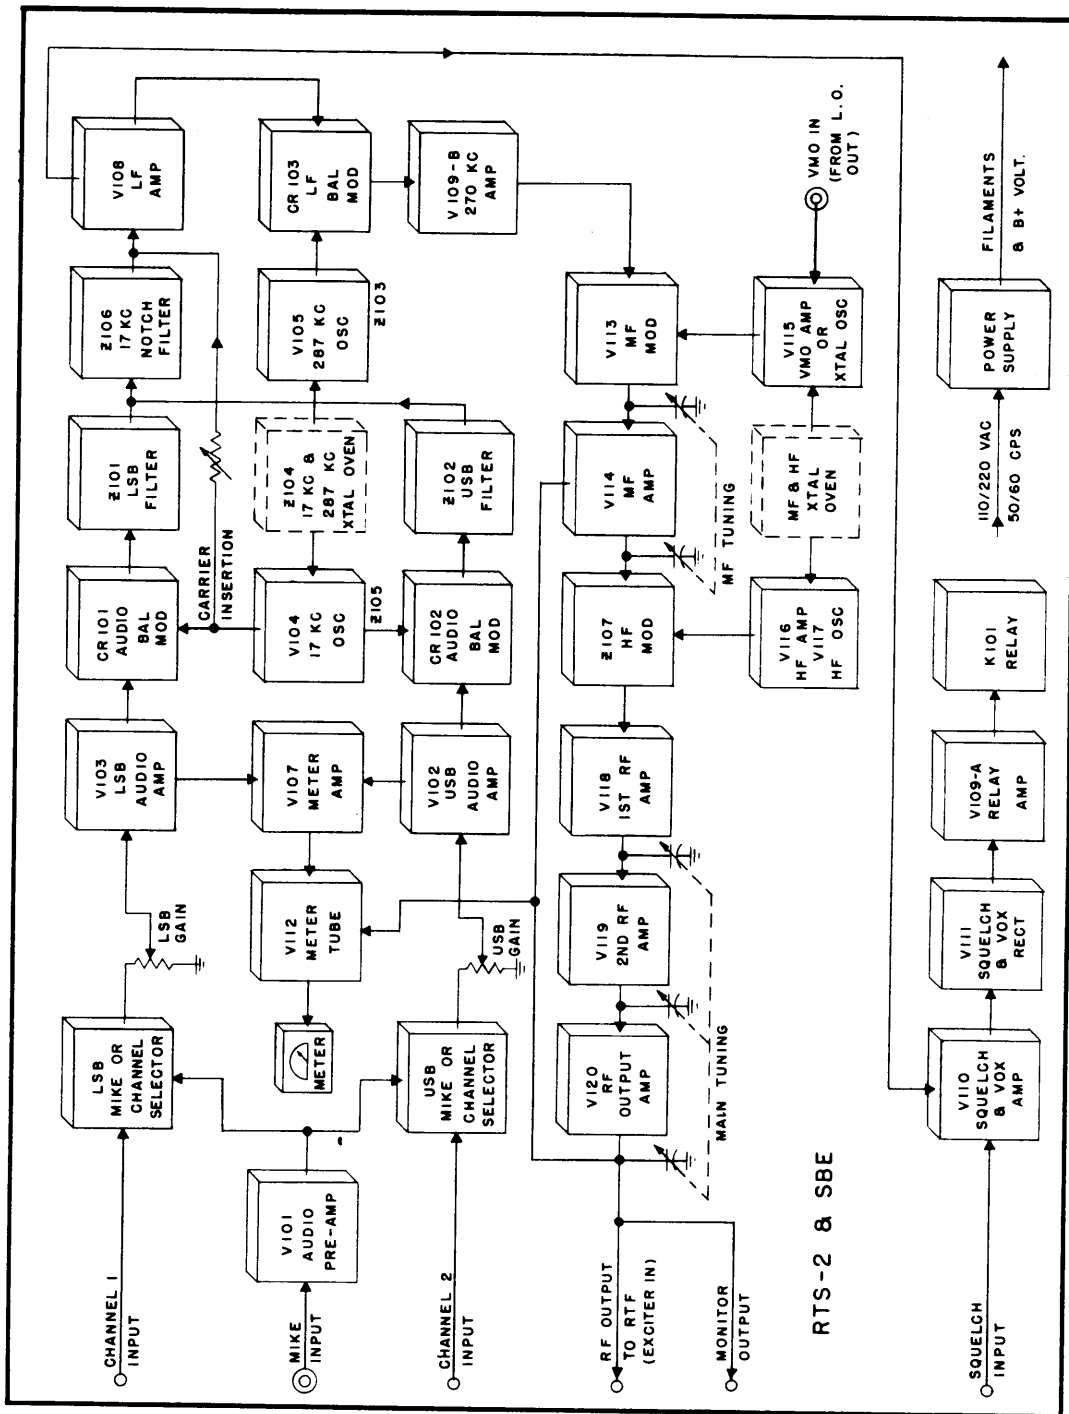

Figure D-2-1 Block Diagram, Model SBE.
D-3-1-1-1 The following connections should be made in the step by step sequence indicated. Reference should be made to the cabling diagram Figure D-2-1 included in this manual. Double check each connection by referring to plug (P) and jack (J) numbers stamped on the chassis, and to labels on each cable, not to color coding alone. This precaution will assure correct connection of cables and prevent possible damage to the equipment.